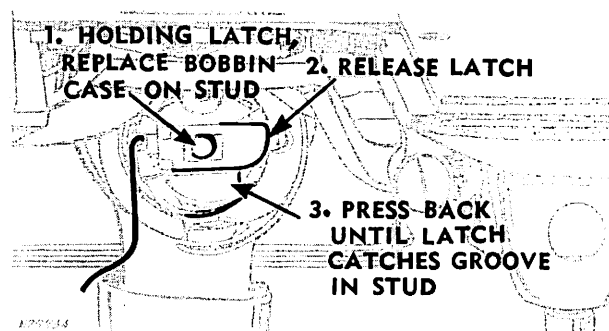

Fig. 19. Bobbin Case Threaded and Replaced
1. After threading bobbin case, grasp latch between thumb and first finger of left hand and place bobbin case on centre stud of bobbin case holder, as shown in Fig. 19.